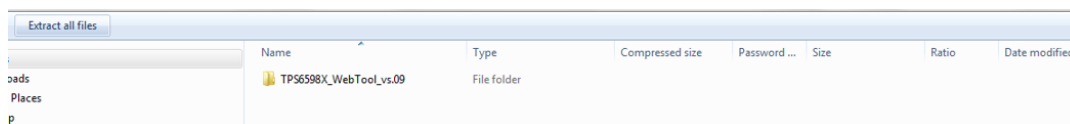

Figure 17. TPS6598x Configuration Image
6. Extract all files, as shown in Figure 17.